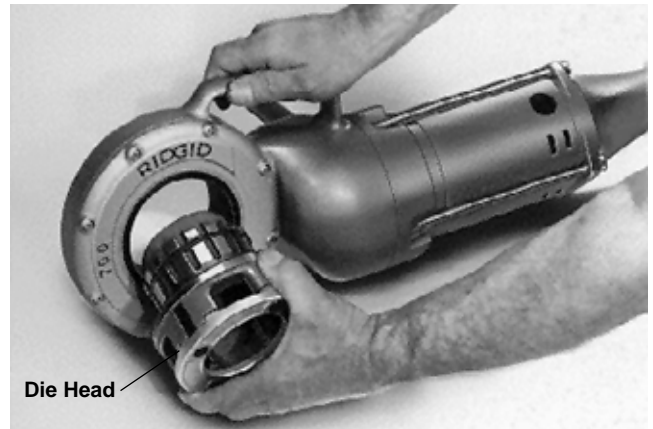

Figure 3 – Installing No. 12-R Die Head
1. Push **die heads** or **adapters**, spline end first, squarely into **power drive face gear** until spring-loaded **adapter pawls** catch securely. (Figure 3)